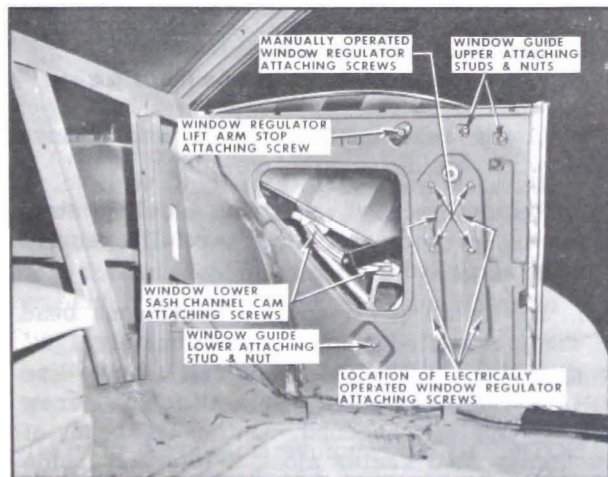

Figure 3-5—Rear Quarter Hardware - "37" Styles
3. With the rear quarter window in the down position remove the lower sash channel cam attaching screws (Figure 3-5). Detach cam from roller on regulator arm and remove cam.
4. Loosen rear quarter window front guide attaching screws (Figure 3-5).
2. To adjust the window fore or aft, loosen the front guide attaching stud nuts (Figure 3-5). Move the window and guides fore or aft as required; then tighten the front guide attaching stud nuts.
3. To adjust the rear quarter window in or out, loosen the window front guide upper attaching stud nuts (Figure 3-5). Adjust the studs in or out as required; then tighten stud nuts.
4. To limit the forward and upward travel of the rear quarter window, adjust the regulator lift arm stop (Figure 3-5) as required.
3. Remove window lower sash channel cam attaching screws (Figure 3-5). Detach cam from roller on regulator lift arm and remove cam.
4. Remove front guide upper and lower attaching stud nuts (Figure 3-5). Disengage guide cams from rollers on window lower sash channel frame; then remove guide from between quarter panels.
5. Remove rear quarter window regulator attaching screws (Figure 3-5); then remove regulator assembly through large access hole.
2. With window in up position remove the window front guide upper and lower attaching stud nuts (Figure 3-5).